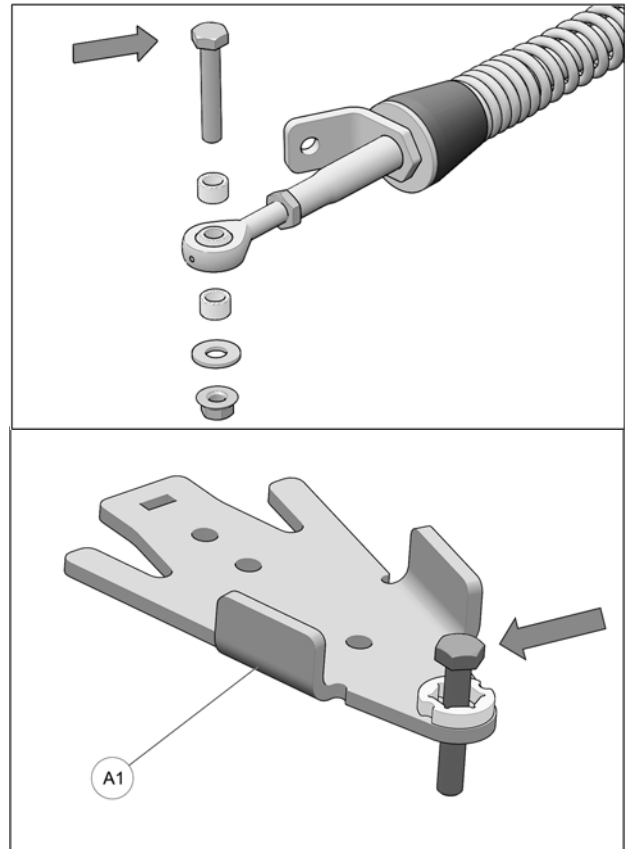

Fig. 13
4. Remove bolt, washer and bushings from front stabilizing rod end and insert bolt in front anchor bracket (A1) as shown in Fig. 13